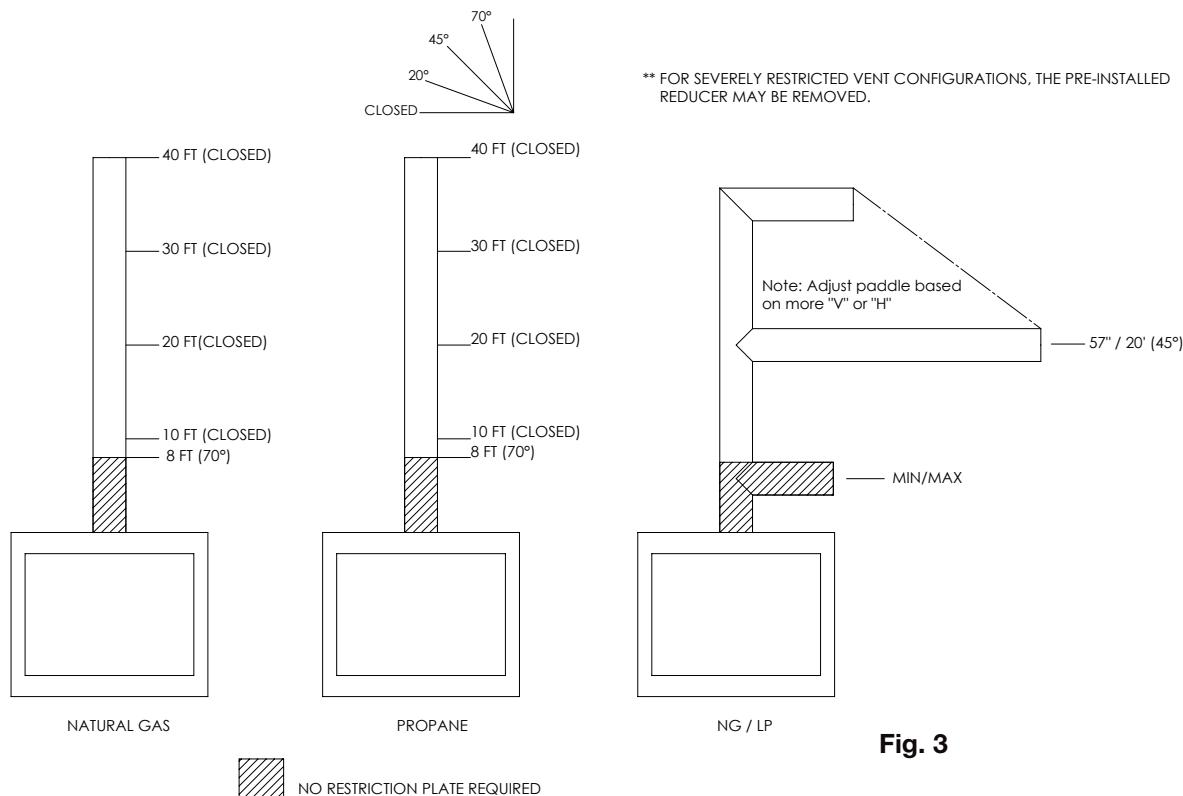

Fig. 3
- B.** Depending on the amount of restriction desired, the restrictor plate (supplied) can be installed flat for the most restriction or bent up for varying degrees of restriction (see Figure 3 for restriction guide).